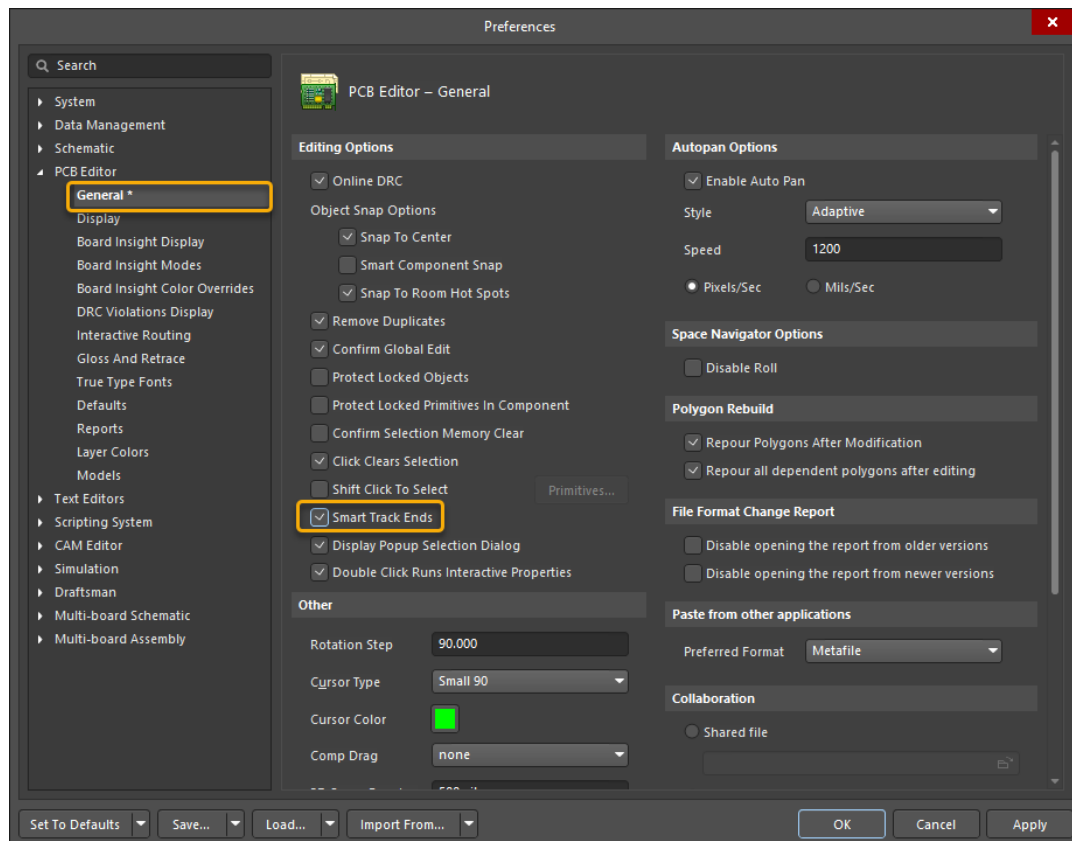

Figure 25. PCB Preferences
56. Under *PCB Editor* section, in the *General* page, verify the **Smart Track Ends** checkbox is enabled, as shown in Figure 25.